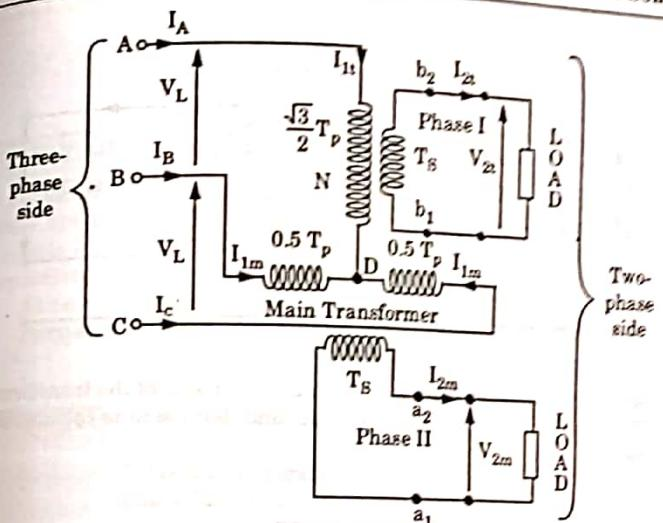

Fig. 5.10.1.
3. Fig. 5.10.1 shows the Scott transformer connection. The main transformer is centre-tapped at D and is connected across the lines B and C of the  $3\phi$  side.